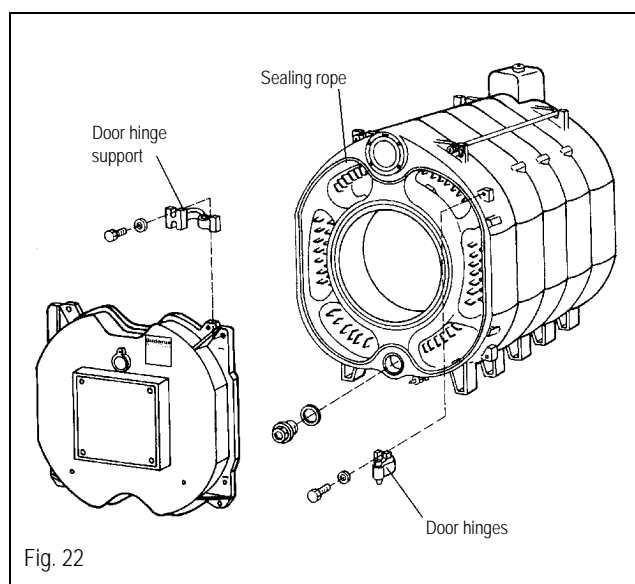

Fig. 22
- Attach sealing rope to front section by applying several drops of glue (P/N 422841) every 6" in the sealing grooves surrounding the combustion chamber and the outer area of the front section (Fig. 22).
- The burner door hinge supports are factory installed on the right side. Remove and mount them on the opposite side with (2) M12x35 bolts for a left hanging door if required.
- Secure the door hinges, if required, with (2) M12x35 bolts to the proper side of boiler front section (Fig. 22).